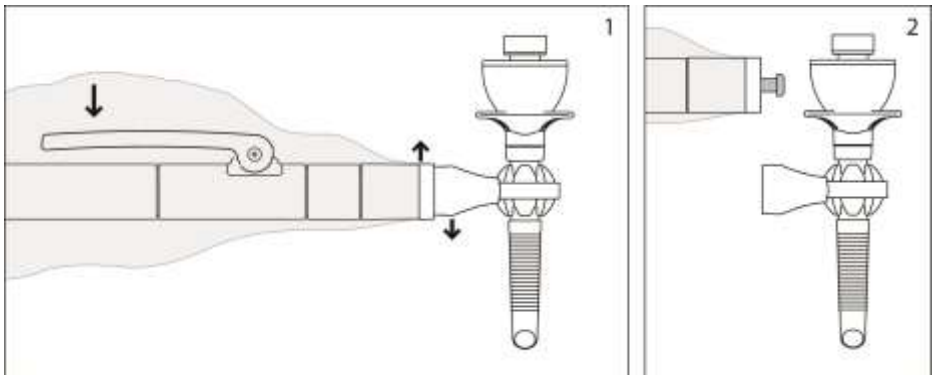

Figure 12
(S) Disconnect clamp with attached trocar by pressing the handle while you move the sleeve pin out of the clamp hole (see Figure 12).